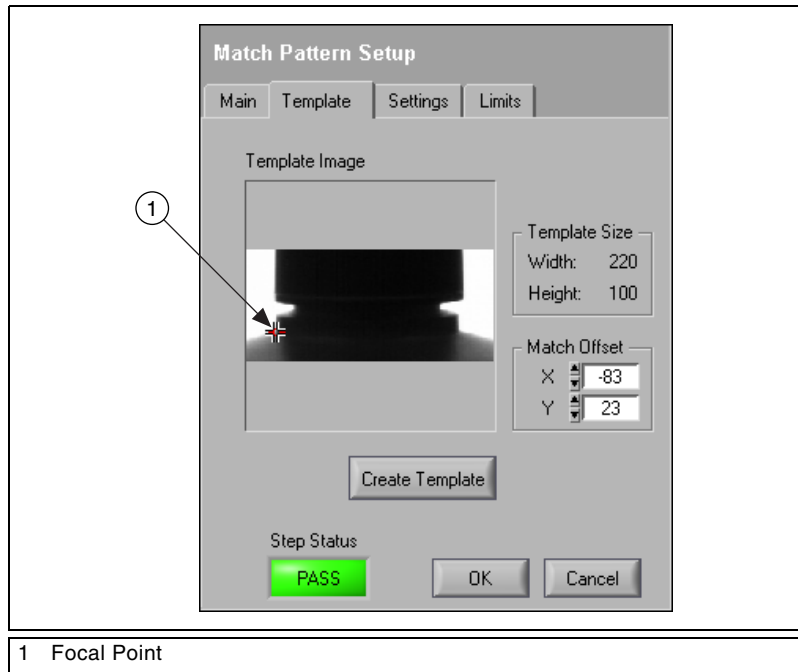

Figure 2-3. Adjusting the Focal Point of the Template
7. In the **Template** tab, drag the red pointer in the template image to the left edge of the sprayer base, as shown in Figure 2-3. This changes the *focal point* of the template. Vision Builder AI uses the focal point later as the origin of a coordinate system.